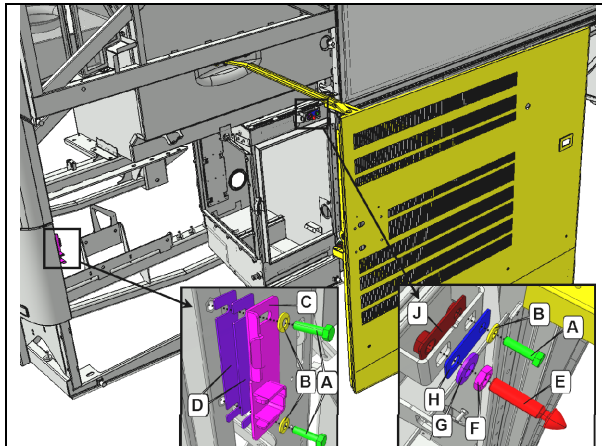

FIGURE 50: DOOR INSTALLATION – LATCH SYSTEM
1. To adjust the position, the door must be free to move without any restriction. For this reason, remove pin E and strike plate C (Figure 50).